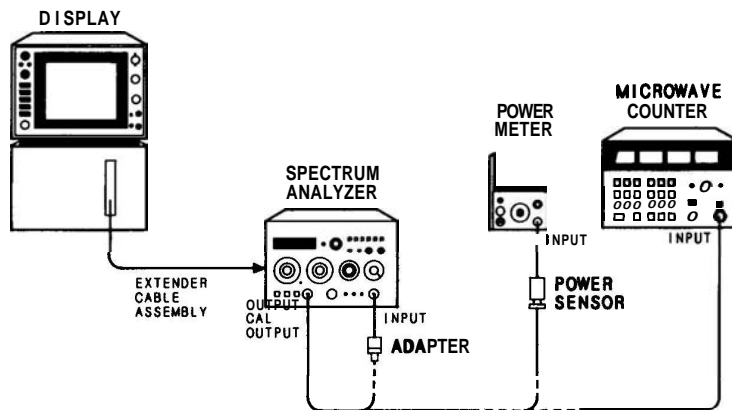

FIGURE 5-20. CAL OUTPUT AND REF LEVEL CAL ADJUSTMENTSTEST SETUP
2. Connect power meter/power sensor to front-panel CAL OUTPUT connector as shown in Figure 5-20.